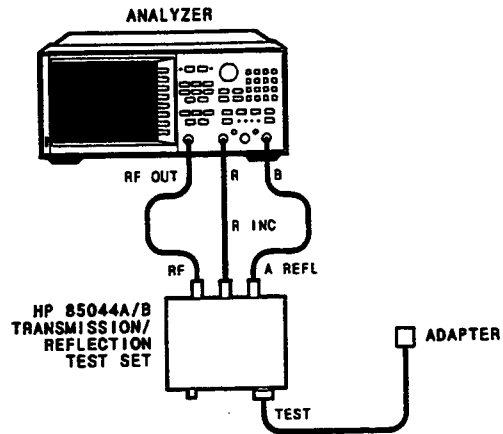

Figure 11. Input A Impedance Test Setup
7. Connect the equipment as shown in Figure 11 and press **[PRESET] [MEAS] [INPUT PORTS] [B/R] [MENU] [NUMBER OF POINTS] [1] [6] [0] [1] [x1]**. Repeat steps 2 through 6 for input A return loss.